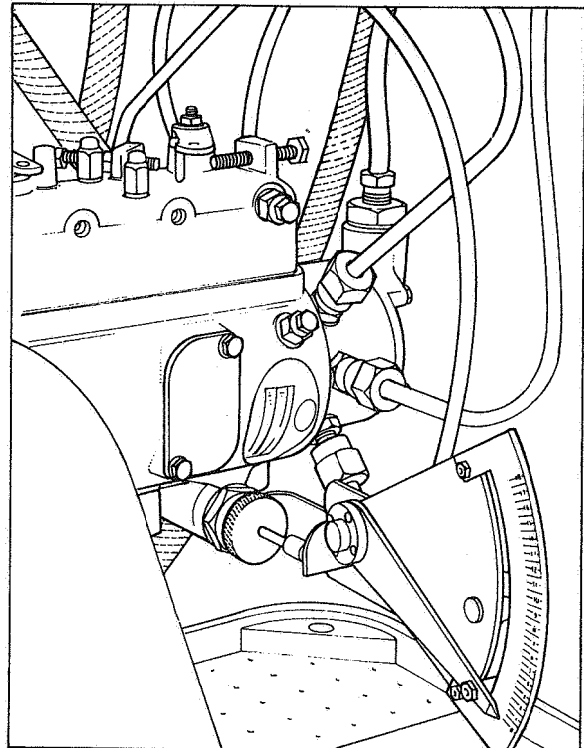

Fig 103 Cam advance checking tool
- 3 Insert the end of the plunger into the hole in the spring cap and screw the bush into the spring cap hole. This will clamp the bracket between the spring cap and the shoulder on the threaded bush, Fig 103.